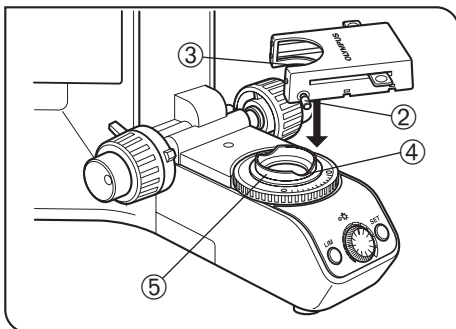
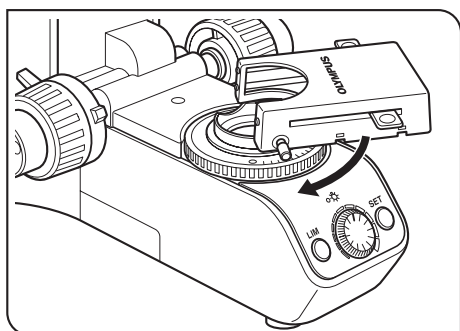

Fig. 15
Fig. 16
1. Fully loosen the filter cassette clamping screw ②. (Fig. 15)
2. Align the key ③ on the bottom surface of the filter cassette with the positioning slot ④ on the filter mount, then snap the filter cassette into place from above.
3. Rotate the filter cassette to align its sides with the base. (Fig. 16)
4. Align the clamping screw ② with the positioning hole ⑤ on the filter mount, then tighten the screw to fasten the filter cassette.